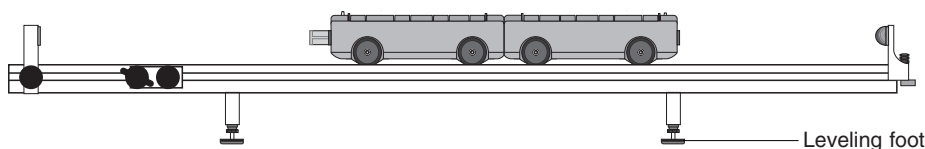

Figure 1.1
2. For each of the following cases, place the two cars against each other with the plunger of the PAScar pushed completely in and latched in its maximum position (see Figure 1.1).